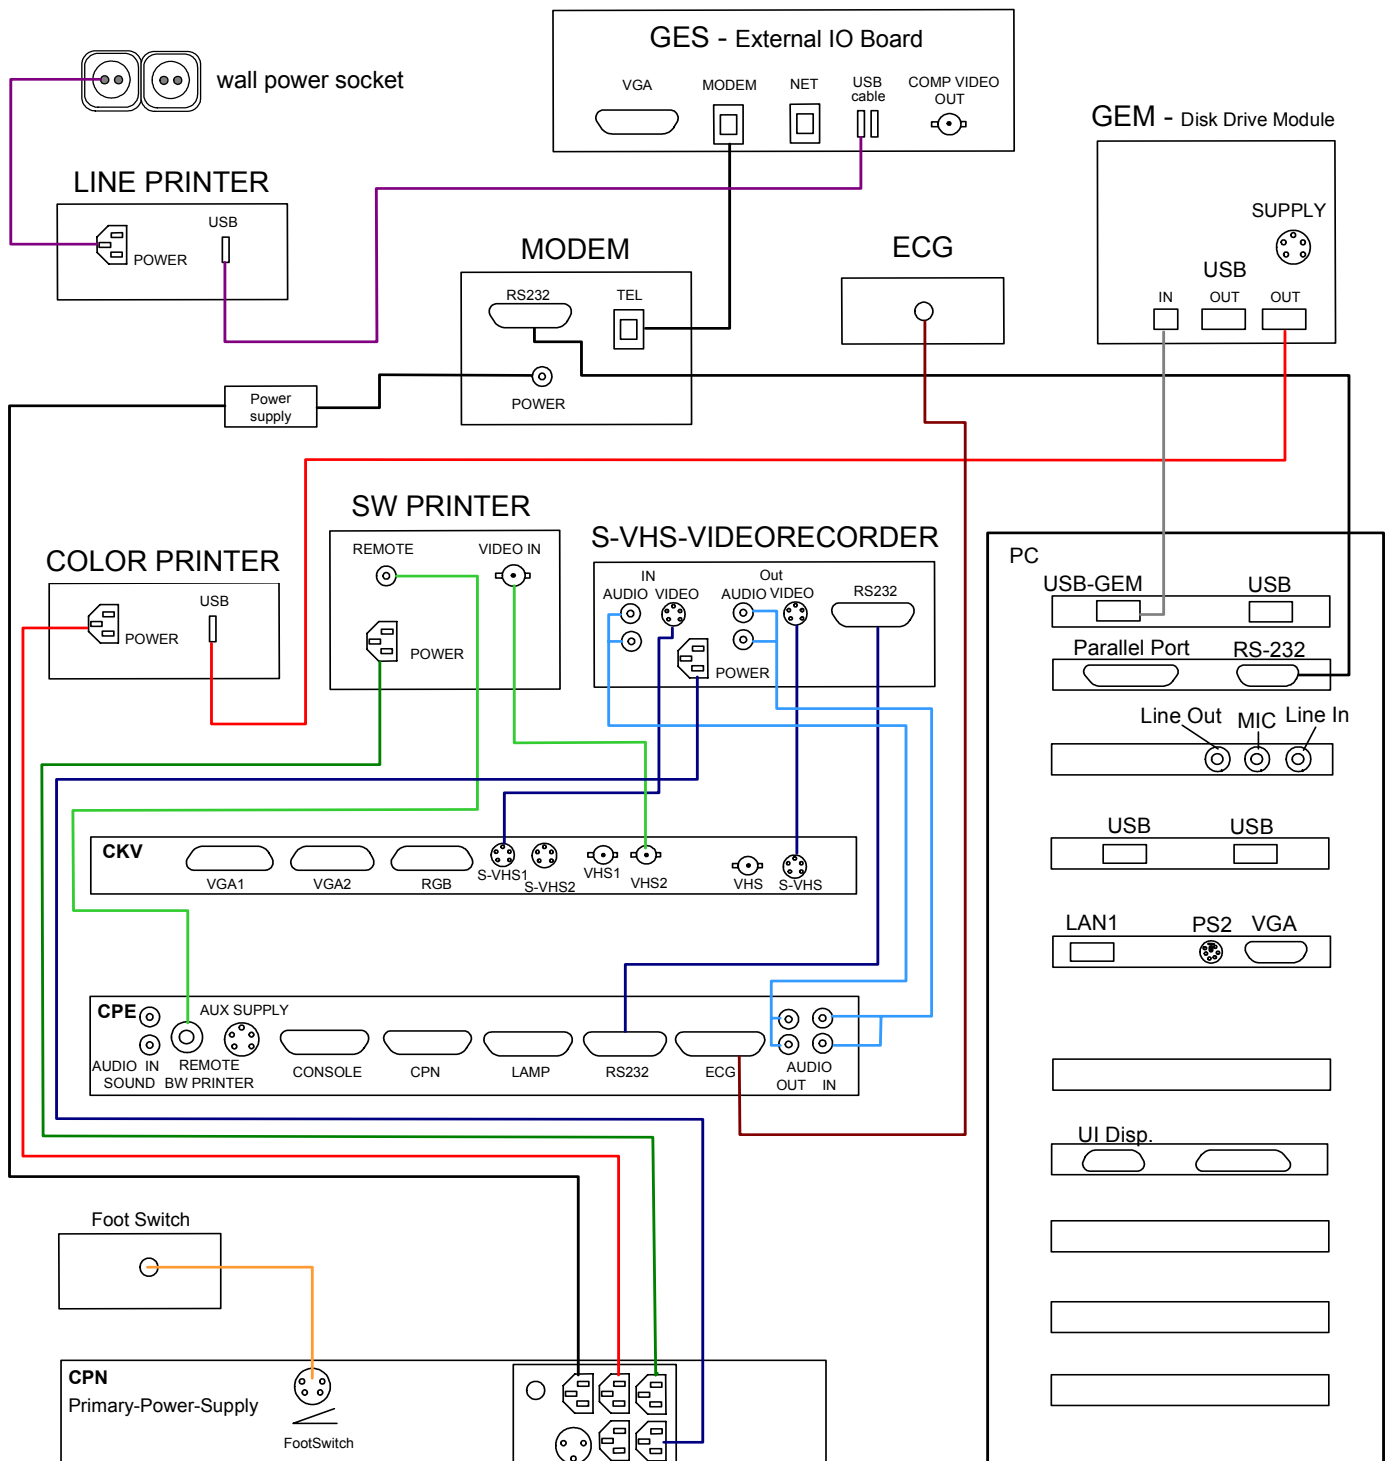

Figure 3-5 Connection of Peripherals
- 4.) Connect all Peripherals according to connection scheme; see: Figure 3-5.